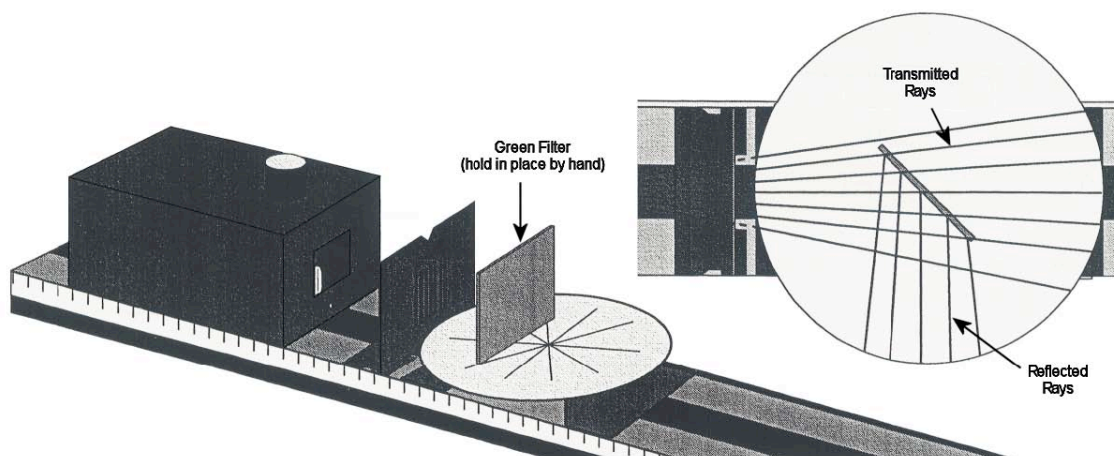

Figure EP09.3 Equipment Setup – The Colors of Objects
1. Setup the optical bench equipment as shown in Figure EP09.3.